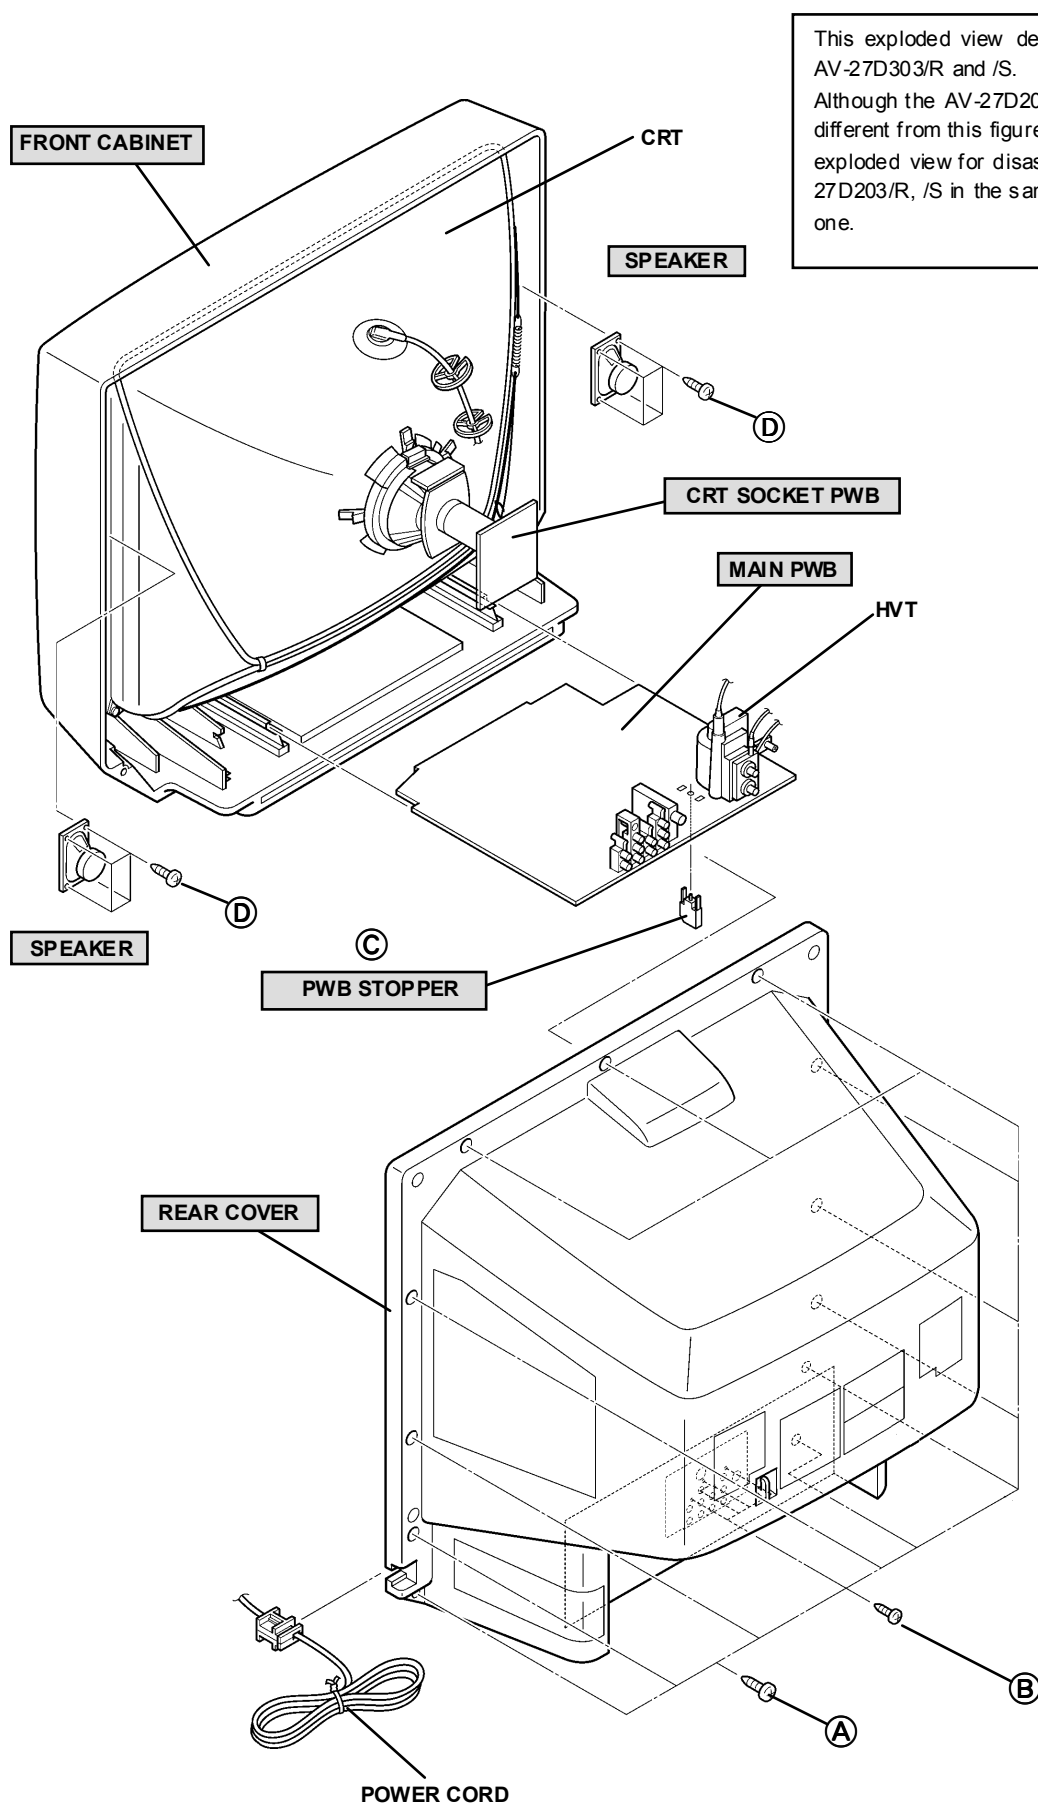

Fig.1
1. As shown in Fig. 1, removing the screws marked **(D)**, then remove the speaker.